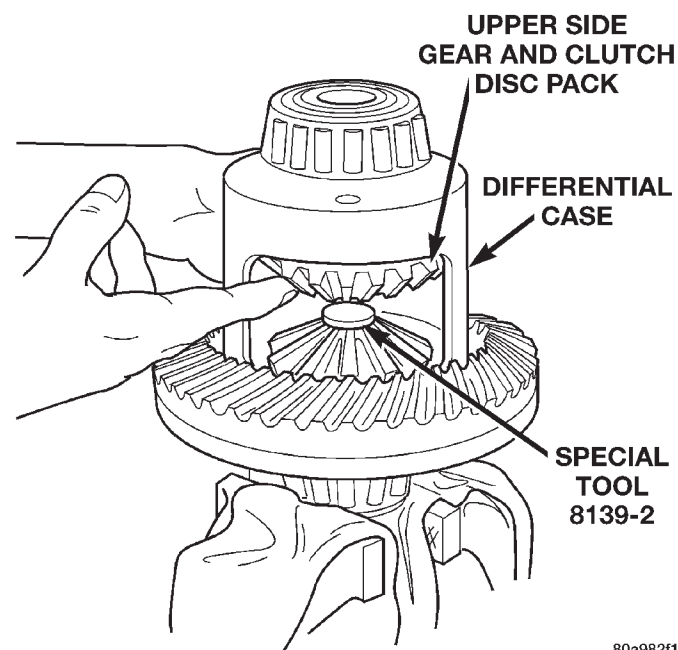

Fig. 51 Upper Side Gear & Clutch Disc Pack Installation
(4) Position the differential case on Side Gear Holding Tool 8136.
(5) Install lubricated Step Plate 8139-2 in lower side gear (Fig. 51).
(6) Install the upper side gear and clutch disc pack (Fig. 51).
(7) Hold assembly in position. Insert Threaded Adapter 8139-1 into top side gear.
(8) Insert Forcing Screw C-4487-2.
(9) Tighten forcing screw tool to slightly compress clutch discs.
(10) Place pinion gears in position in side gears and verify that the pinion mate shaft holes are aligned.
(11) Rotate case with Turning Bar C-4487-4 until the pinion mate shaft holes in pinion gears align with holes in case. It may be necessary to slightly tighten the forcing screw in order to install the pinion gears.
(12) Tighten forcing screw to 122 N·m (90 ft. lbs.) maximum to compress the Belleville springs.
(13) Lubricate and install thrust washers behind pinion gears and align washers with a small screw driver. Insert mate shaft into each pinion gear to verify alignment.
(14) Remove Forcing Screw C-4487-2, Step Plate 8139-2, and Threaded Adapter 8139-1.
(15) Install pinion gear mate shaft and align holes in shaft and case.
(16) Install the pinion mate shaft lock screw finger tight to hold shaft during differential installation.